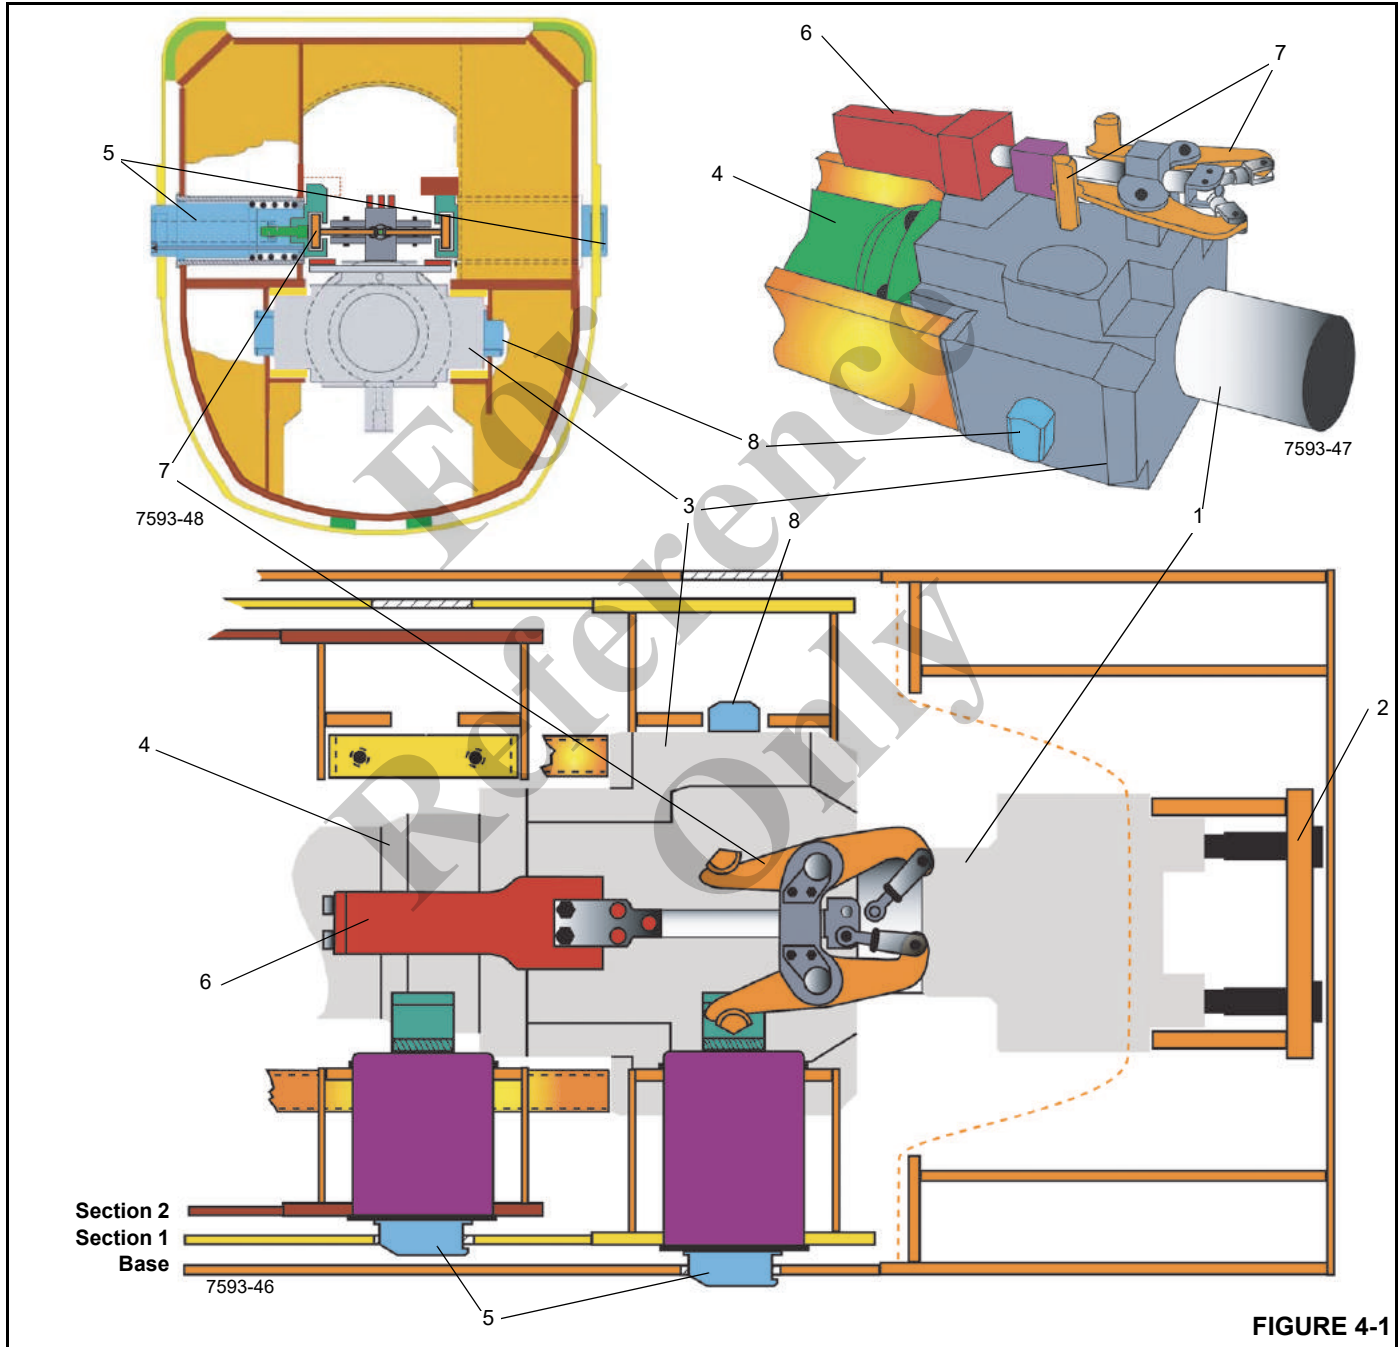

FIGURE 4-1
Extension and retraction of the boom is controlled by a telescope cylinder and a pinning system. The telescope cylinder rod (1) (Figure 4-1) is secured to the rear of the boom's base section (2). The telescope cylinder barrel is free to ride inside the boom sections. The pinning system consists of a pinning block (3) that rides on the telescope cylinder barrel (4) and section locking pin assemblies (section pins) (5) located in the rear of each movable boom section.